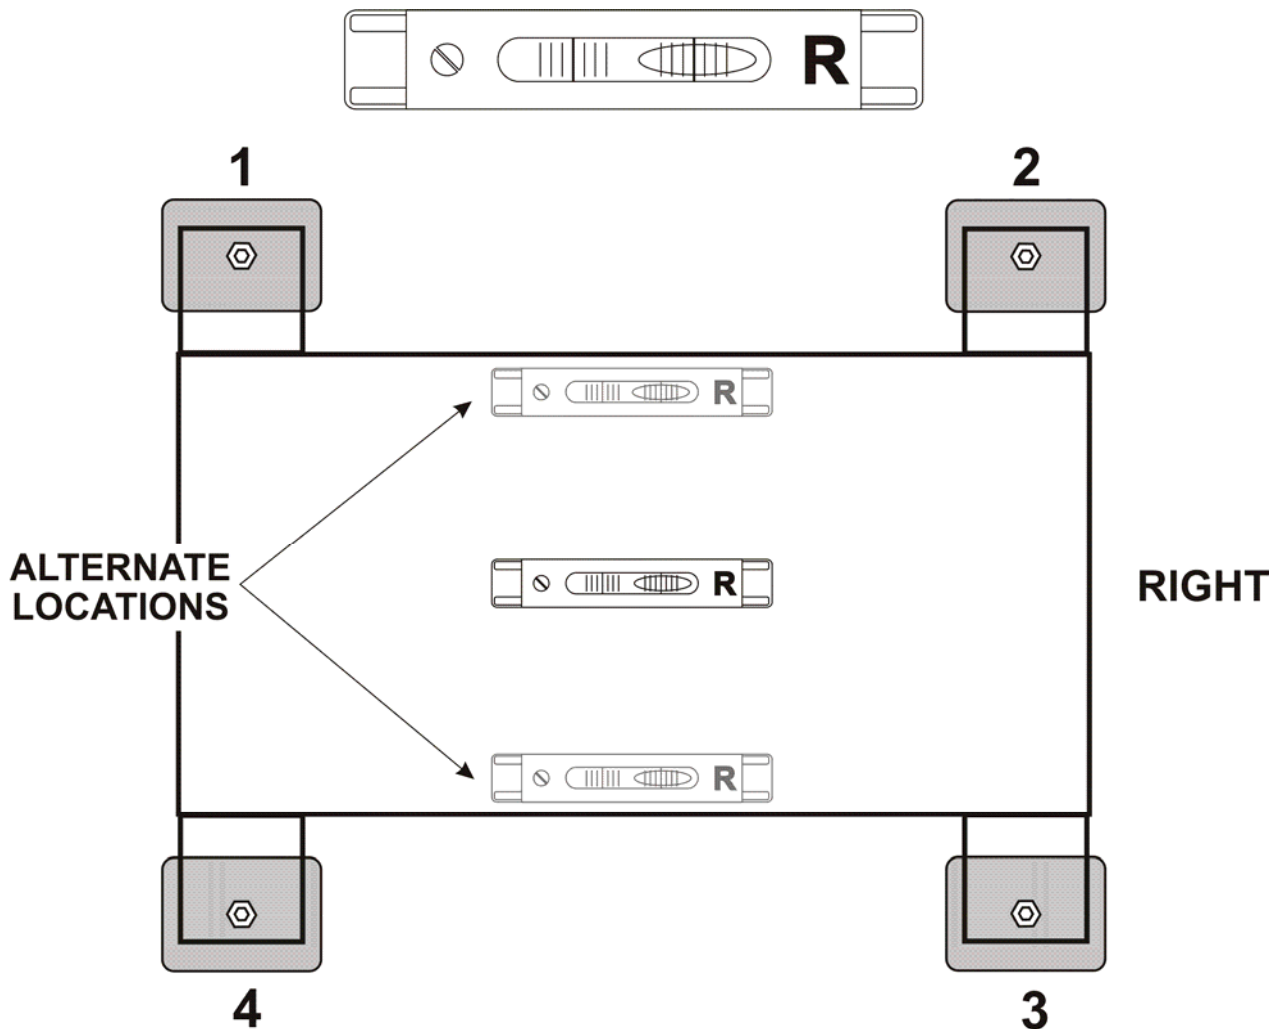

Figure 7
6. If your level condition is as shown in Figure 7, the left side of the press is low. Raise feet 1 & 4, alternately and in small increments, until the press is level at both level locations.